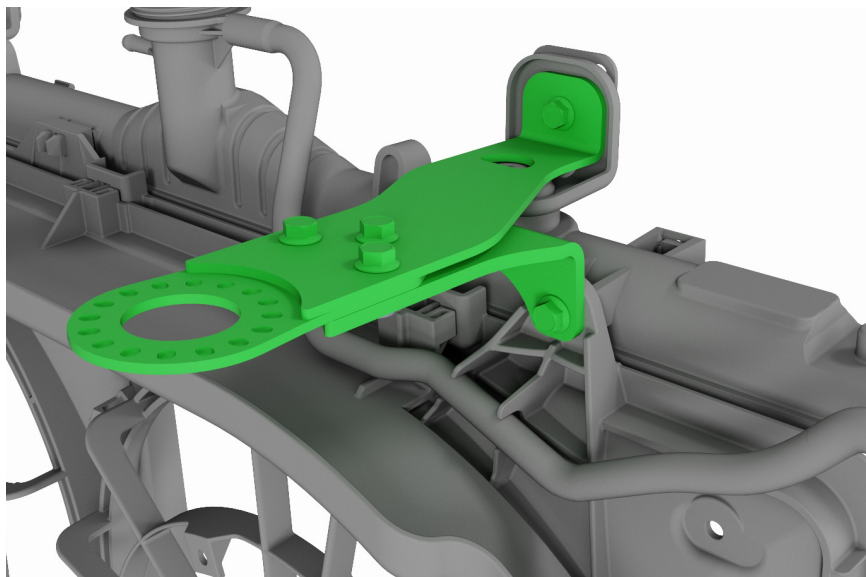

Figure 2 - Brackets Mounted on Radiator Shroud
1. Refer to Figure 2 to see how the brackets mount onto the radiator shroud.
3. Use a 10mm tool to install the brackets using all M6 flange screws included with the kit, shown in Figure 2.